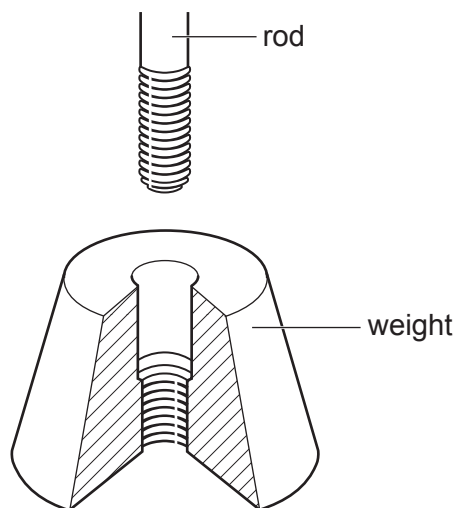

Fig. 12.6
- (f) Fig. 12.6 shows how the $\varnothing 3$ mild steel rod will be joined to the mild steel weight by means of a screw thread.